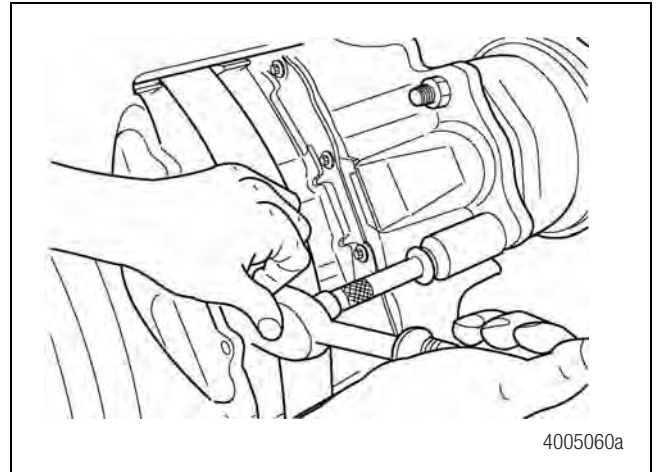

Figure 5.1
1. If the caliper has a spring chamber, carefully cage and lock the spring. Follow the chamber manufacturer's instructions to completely release the brake. Use the correct wrench to remove the air chamber nuts and washers. Figure 5.1. Remove the air chamber assembly from the brake caliper and inspect the air chamber. Refer to Section 7.